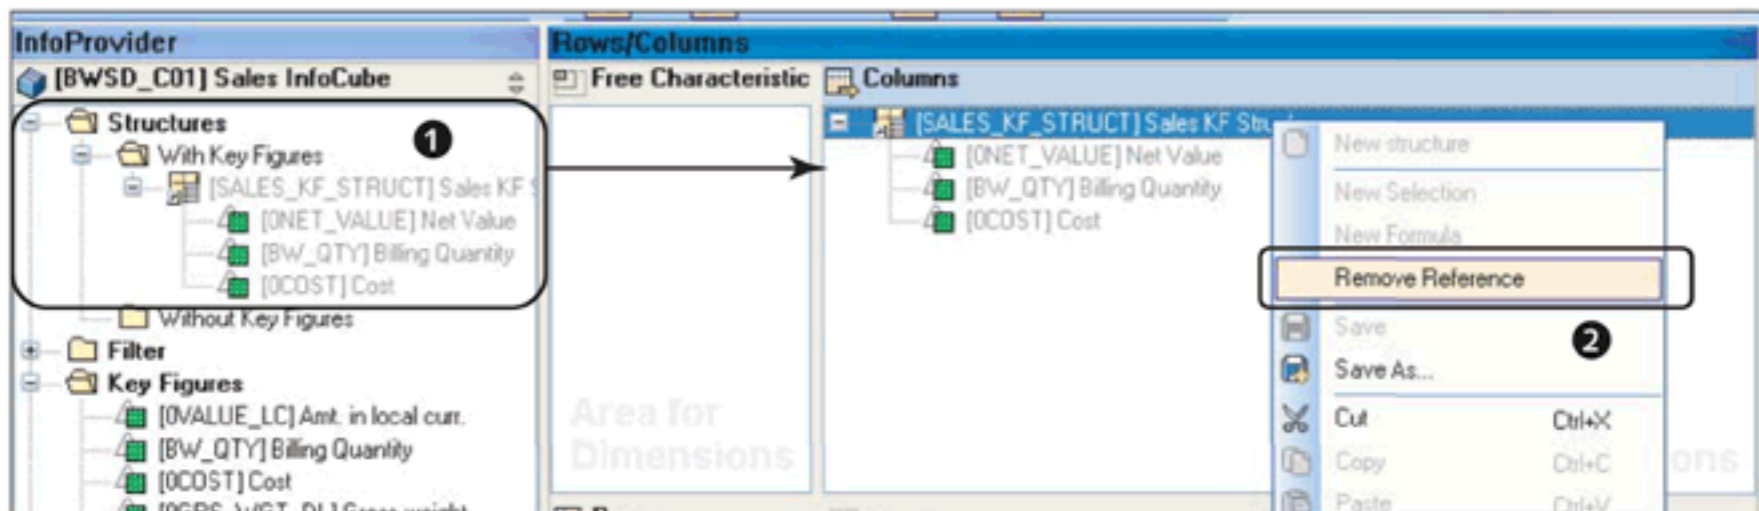

Figure 9.50 Reusing Structures
When you create a new query on the same InfoProvider, this saved structure is visible under the **STRUCTURES** folder in the **INFOPROVIDER** tab (❶ of Figure 9.50).